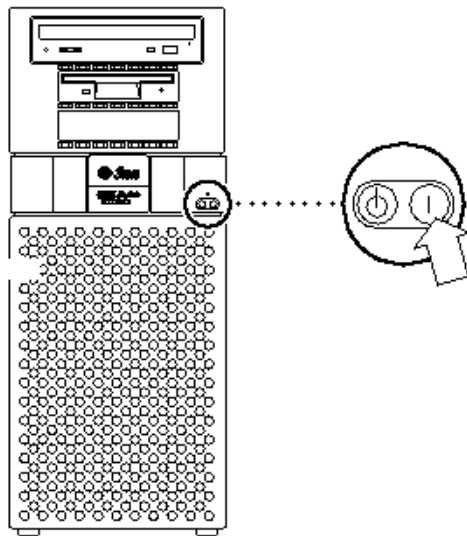
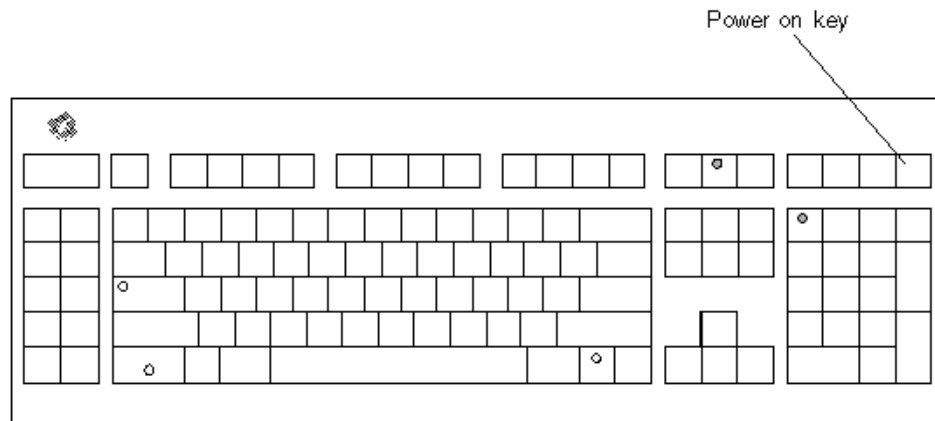

Figure 6-1 System Unit Power-On (Front Panel)
Figure 6-2 Sun Type-5 Keyboard
3. **Set the front panel power switch to the On position (Figure 6-1) or press the Sun Type-5 keyboard power on key (Figure 6-2).**